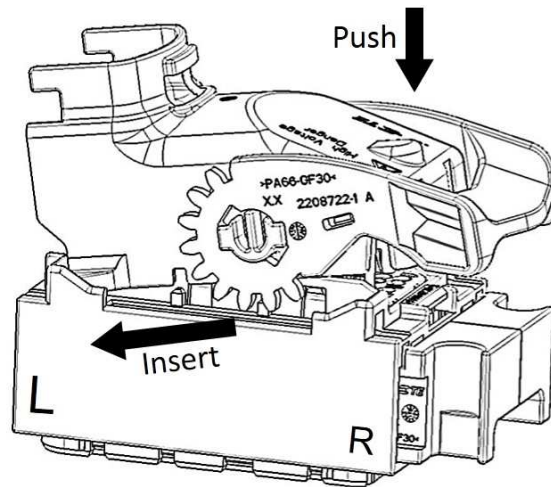
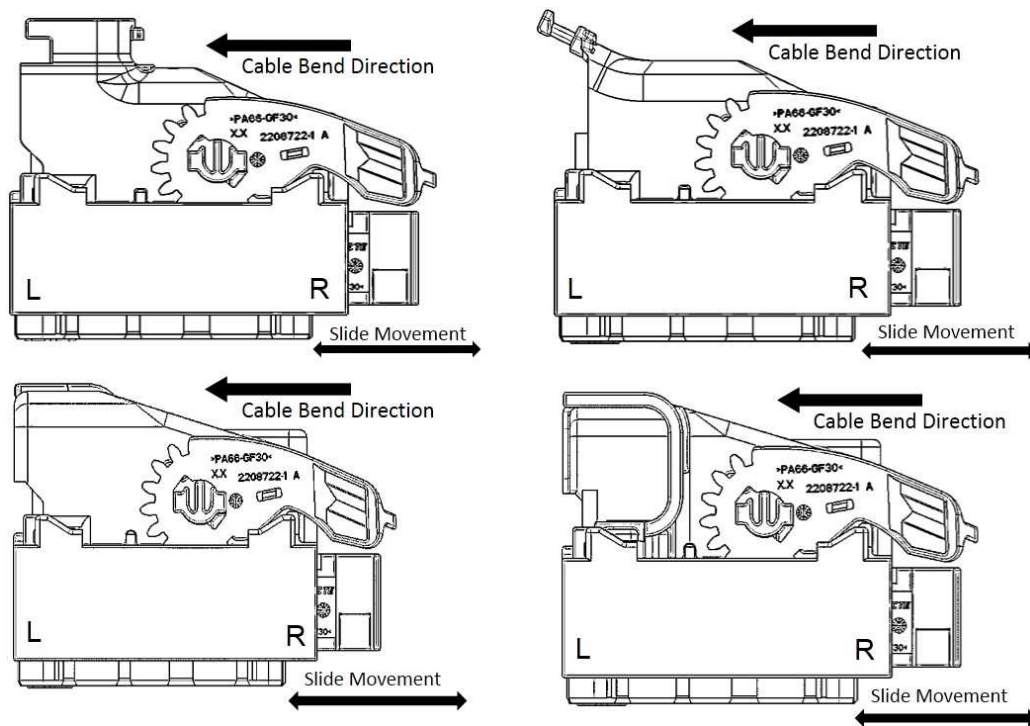

Figure 12
Figure 13
For mounting of the Cover-Lever assembly's (6, 7, 8, 9), the lever and slide in the housing (1) of 105 position connector must be in end lock position. The cable must be bend to the left side of housing (as shown in figure 13) and the Cover-Lever assembly's (6, 7, 8, 9) must be mounted and pushed till the locking noise heard (as shown in figure 12). The end lock position of the lever will be in the right side of the housing.
If the Cover-Lever assembly's (6, 7, 8, 9), are mounted other than the shown direction (figure 13), the lever cannot be operated and it's unable to mate the connector with male part.